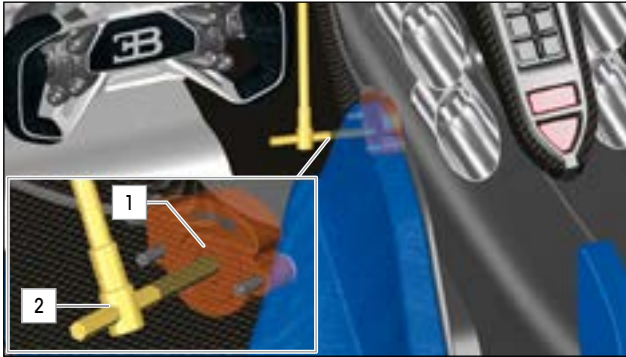

FIG.75 ON THE CENTRE CONSOLE: EMERGENCY UNLOCKING THE SELECTOR LOCK
- ▶ Insert the Allen key 2 (» Fig.75) into the unlocking device 1 (» Fig.75).